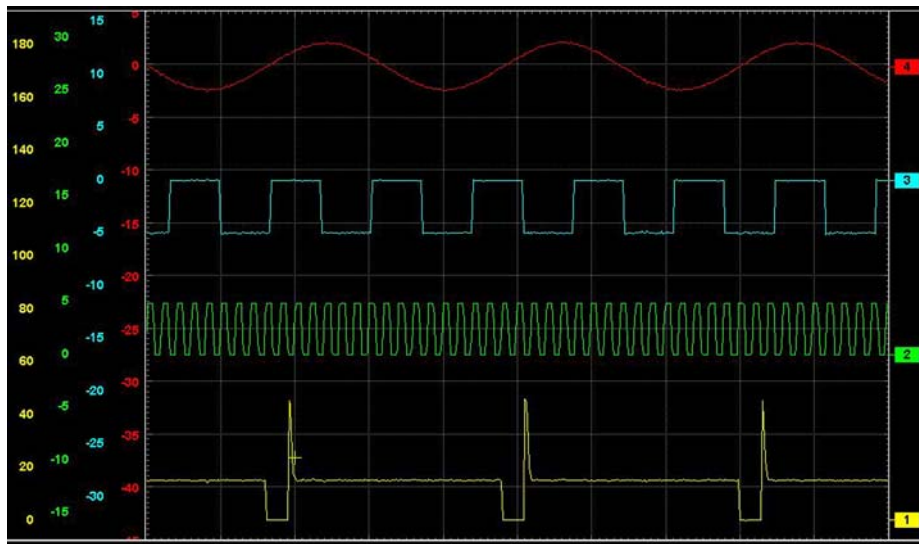

Figure 7-19 Sample grid selected
- **Show Grid**—switches grid lines on the screen off and on (Figure 7-19).
- **1 window**—shows all traces on the same screen (Figure 7-19).